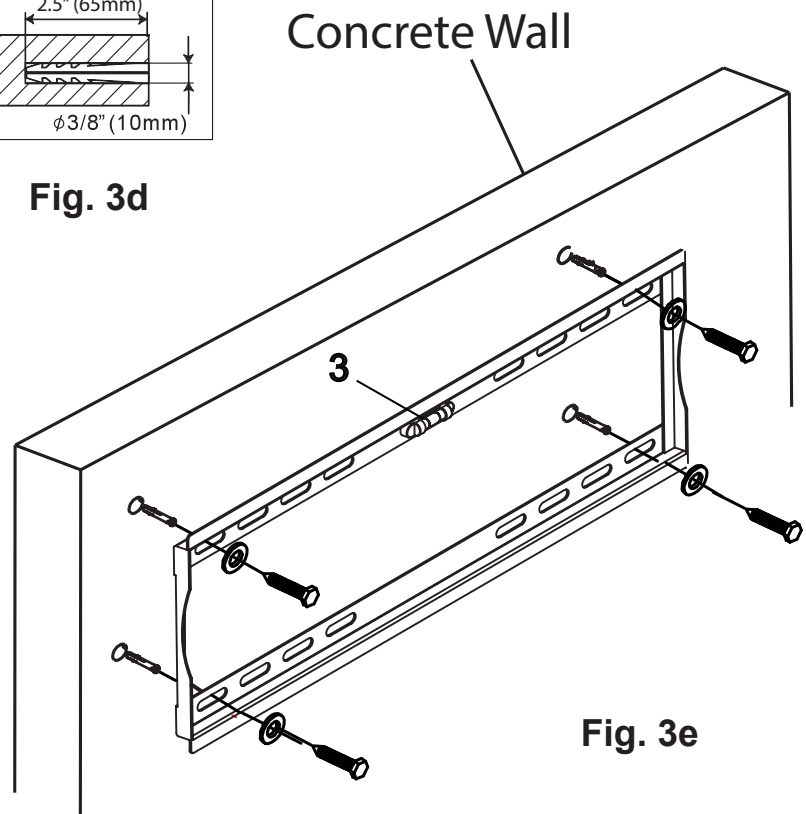

Fig. 3e
3. Insert a wall anchor (B) into each pre-drilled hole and lightly tap it with a hammer until the wall anchor is flush with the wall.
4. Use a wrench, the four long bolts (A) and washers ( C ) to attach the wall mount to the wall with the wall anchors (Fig. 3e).
5. Use the magnet level (3) placed on the front of the mounting plate to level the wall mount, repositioning as necessary, then securely tighten the bolts.